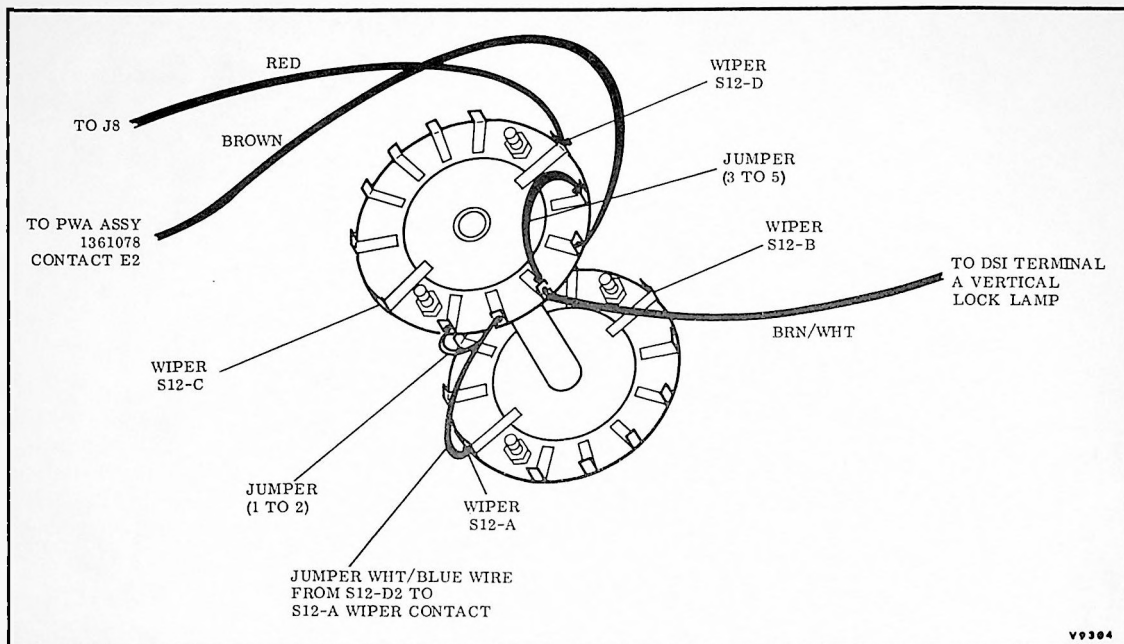

Figure 2-4. Servo Mode Switch S12 Modification
p. Route and solder the red lead from J8 to the wiper contact of the SERVO MODE switch S12-D as shown in Figure 2-4.
q. Make the following connections at switch S12 as shown in Figure 2-4:
1. Route and solder the red lead from J8 to the wiper contact of the SERVO MODE switch S12-D and solder as shown in Figure 2-4.
- m. Make the following connections at switch S12 as shown in Figure 2-4.